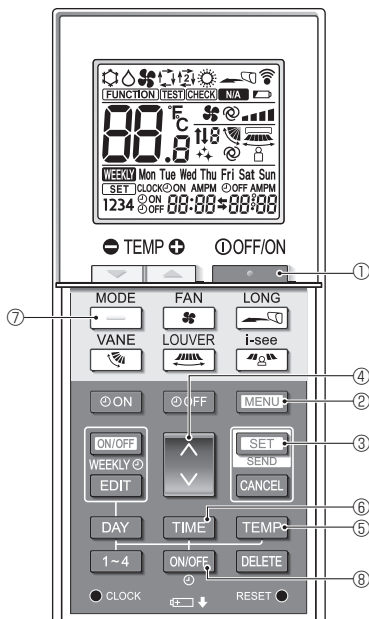

Fig. 6-9
1. Press the **STOP** button ① to stop the air conditioner.
2. Press the **MENU** button ②.
The Function setting screen will be displayed and the function No. (A) will blink. (Fig. 6-9)